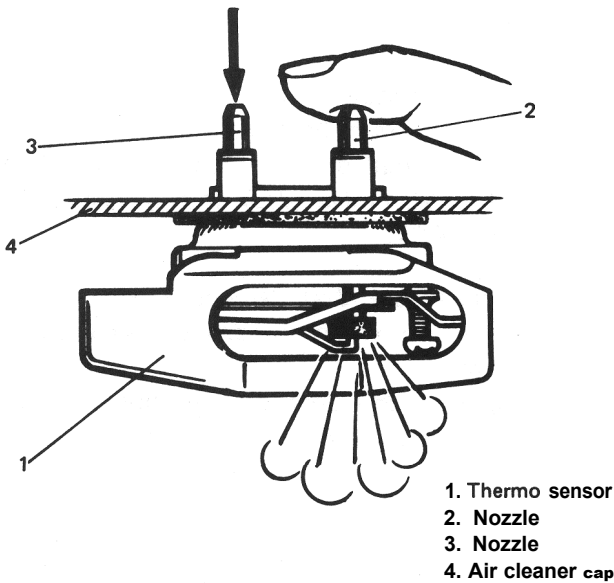

Fig. 5-3-6 Checking thermo sensor
- 4) Close a nozzle with finger and then blow air into nozzle. If measured temperature is above 40°C (104° F), air should come out of thermo sensor valve (valve is open) as shown in Fig. 5-3-6.